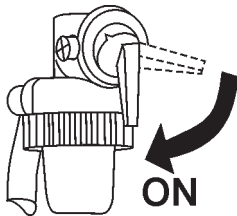

Figure 10. Engine Fuel Valve Lever (ON Position)
1. Place the engine **fuel valve lever** (Figure 10) to the "ON" position."